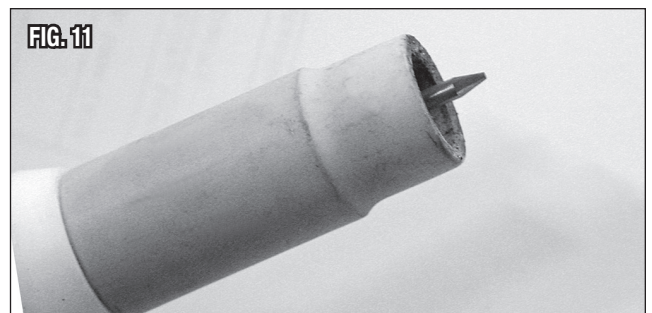

FIG. 11
- Replace the Tungsten in the Collet with the tip extending 1/8"-1/4" beyond the Gas Shielding Nozzle, then re-tighten the Back Cap (FIG 11).